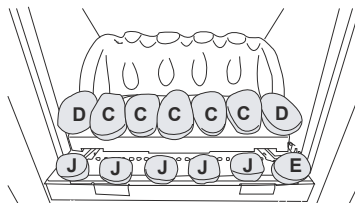

Figure 36
4. Insert the **J & E** pebbles centrally onto the spikes and place the **C & D** pebbles on the middle matrix ensuring the same orientation as shown in **Figure 36**.